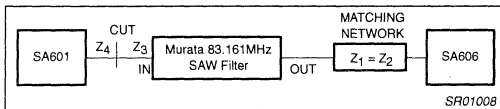

Figure 9. Impedance Matching from SA601 to SAW Filter
- Obtain a conjugate match to  $Z_3$  at the SA601 mixer output,  $Z_4$ , and then connect together (Figure 9).